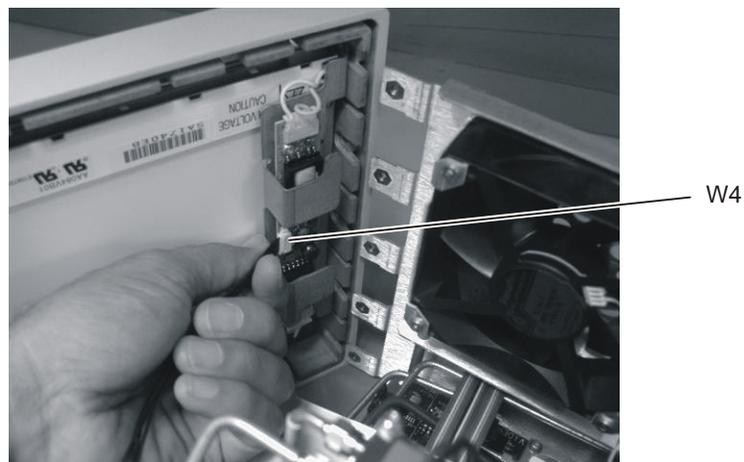

Figure 7-12. Disconnecting the W4 Cable from the A3 Backlight Inverter Board
- 8 Disconnect the W4 cable from the A3 Backlight Inverter board, as shown in Figure 7-12.